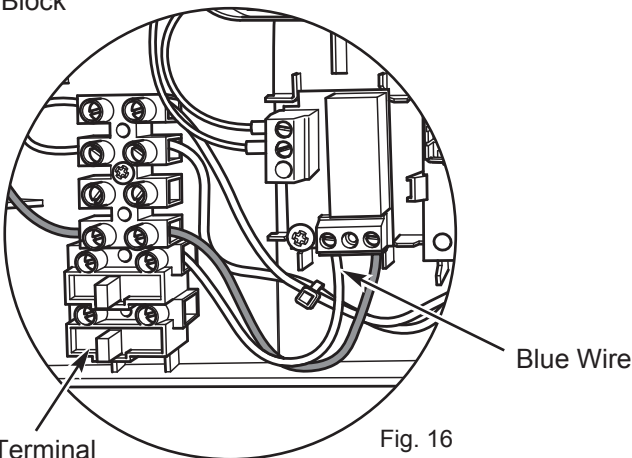

Fig. 16
6. Connect the blue wire from the relay PCB to the neutral connection of the M1 terminal block (Fig. 16).